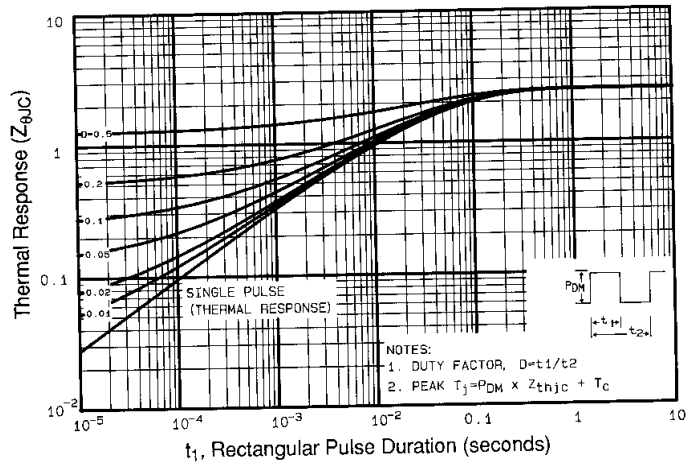

Fig 11. Maximum Effective Transient Thermal Impedance, Junction-to-Case
- ① Repetitive rating; pulse width limited by max. junction temperature. (See fig. 11)
- ② $V_{DD} = 50V$, starting $T_J = 25^\circ\text{C}$, $L = 31mH$